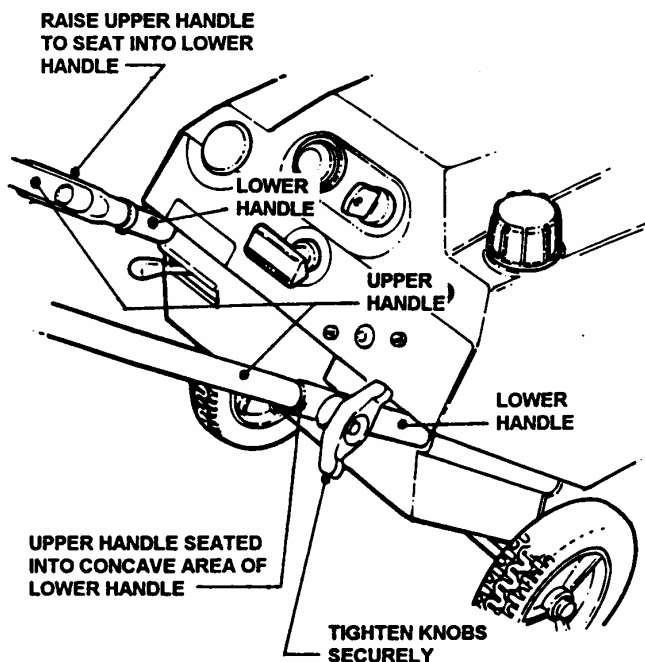

FIGURE 1
STEP 1: Remove machine from shipping carton. Machine is shipped in carton with handles folded. Remove and discard cardboard from between all handles. The right side of upper handle is positioned on the outside of lower handle. The upper handle should be moved to the inside of the lower handle and bolt and knob reinstated. Raise upper handle until the lower ends seat into concave area of lower handle. Securely tighten upper handle with knobs and curved head bolts on both sides. See Figure 1.